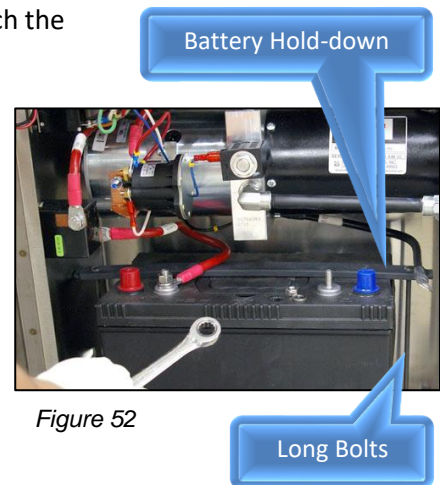

Figure 52
6. Using a 1/2 inch wrench, remove the nut and lock washer from the negative terminal of the battery. Tuck the cable out of the way so it cannot touch the negative battery terminal (Figure 52).